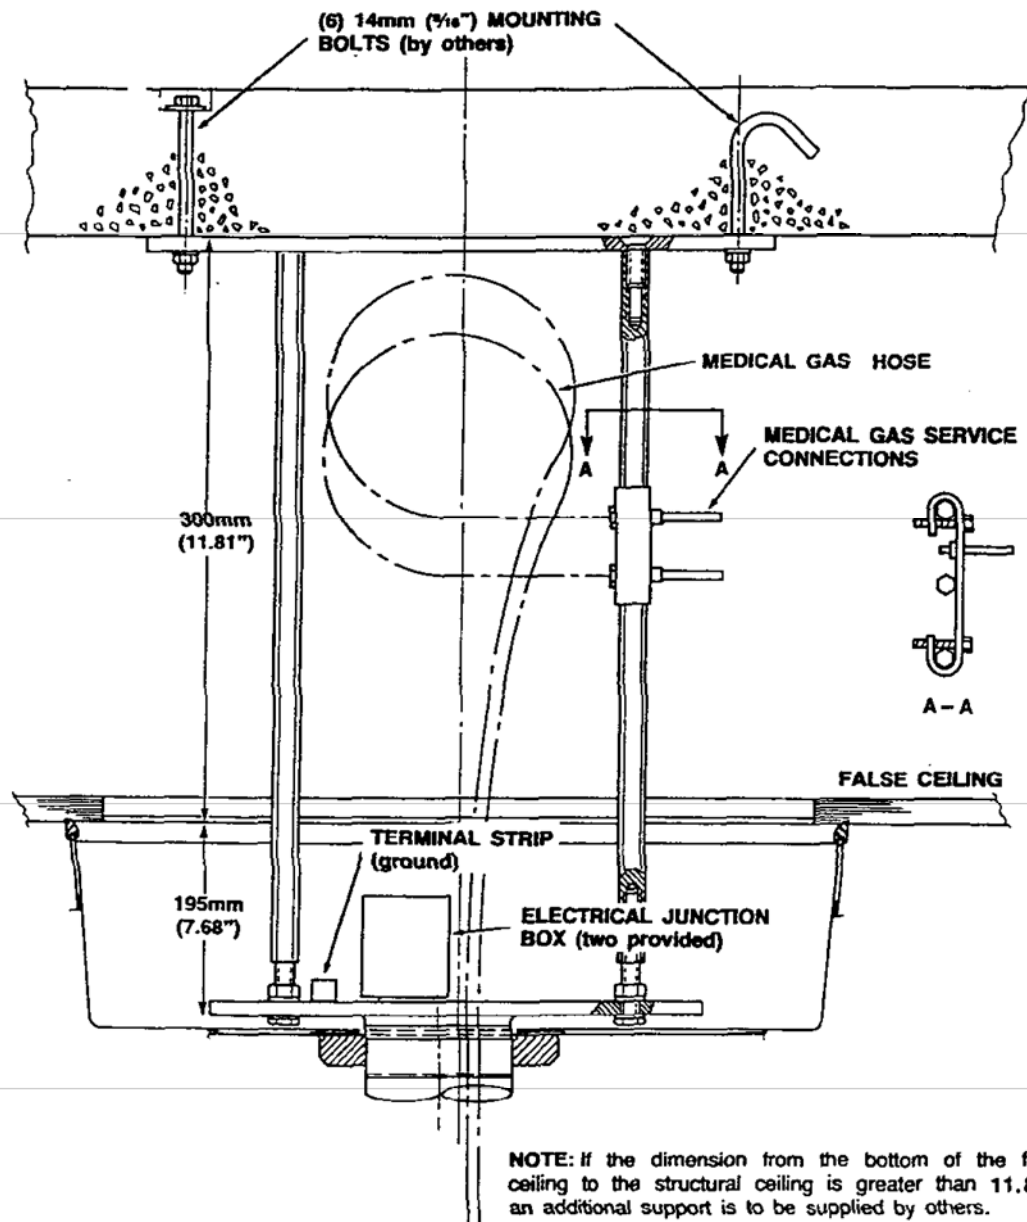

Figure 2. Installation of Roughing-In Assembly
The dimension from the structural ceiling to the bottom of the finished ceiling must be 11 3/4" (300mm). If this dimension is greater than 11 3/4" (300mm) an additional structure must be provided (by others) to make up the difference as indicated in Figure 2. If the dimension is less than 11 3/4" (300mm) the spacer rods will have to be shortened.
2. Attach the medical gas mounting plate to the spacer supports using the four 6-32 x 1 1/4" screws. Attach it as shown in Figure 2 with the screws pointed toward the center of the roughing-in.
4. Level the mounting plate and verify the dimensions shown in Figure 2.
1. Make a complete loop in the medical gas hoses and connect them to their corresponding DISS roughing-in assemblies as shown in Figure 2. Looping the hoses will minimize the torsion exerted on them when the pendant is being rotated.